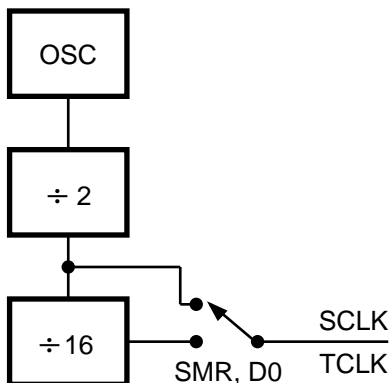

Figure 34. SCLK Circuit
**SCLK/TCLK Divide-by-16 Select (D0).** D0 of the SMR controls a Divide-by-16 prescaler of SCLK/TCLK (Figure 34). The purpose of this control is to selectively reduce device power consumption during normal processor execution (SCLK control) and/or HALT Mode (where TCLK sources interrupt logic). After Stop-Mode Recovery, this bit is set to a 0.